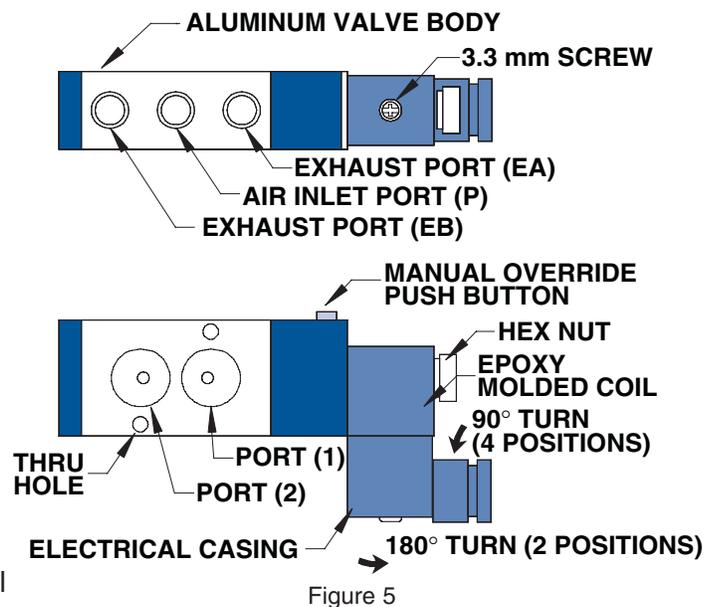

Figure 5
1. Remove the electrical casing from the rest of the valve. This is easily done by loosening the 3.3mm screw (see Figure 5). Completely remove the 3.3mm screw from the casing.